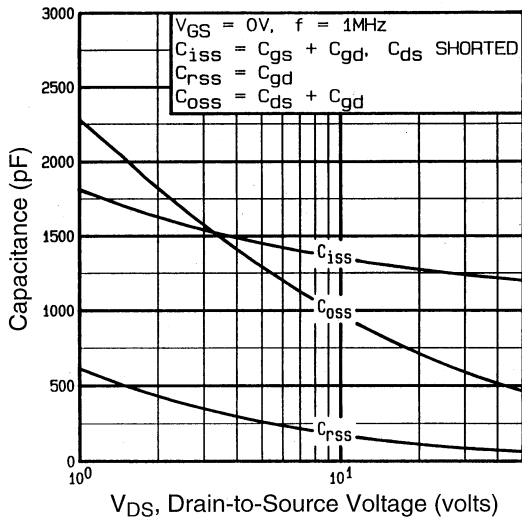

Fig 5. Typical Capacitance Vs. Drain-to-Source Voltage
| C_{rss} | Reverse Transfer Capacitance | — | 100 | — | | $f = 1.0\text{MHz}$, See Fig. 5 ⑤ |